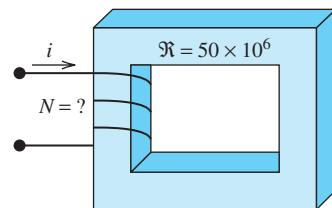

FIGURE P12.28 The structure for Problem 12.28.
- 12.28 (A)*** Given a coil wrapped on a core having a reluctance of $\mathfrak{R} = 50 \times 10^6$ (see Figure P12.28), find the number of turns, N , required to produce an inductance of 20 mH. Note: use 1/H for the unit of reluctance.